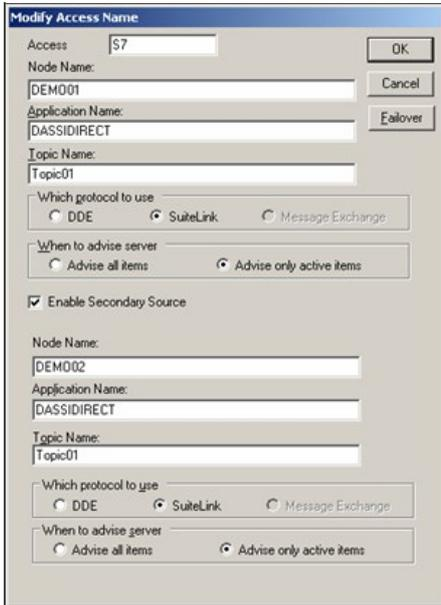

Figure 1: Configure Access Name
1. Configure the Access Names on the Primary Server as shown in Figure 1 (below).